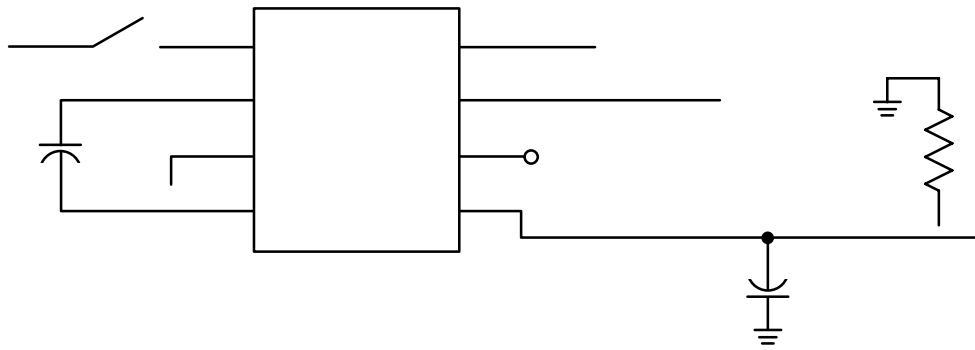

Figure 3. Test Circuit Voltage Inverter
**Table 3. ELECTRICAL CHARACTERISTICS** (V+ = 5 V, C1 = C2 = 100 μF, Boost/FC = Open, COSC = 0 pF, and Test Circuit is Figure 3 unless otherwise noted. Temperature is TA = TAMIN to TAMAX unless otherwise noted.)
- In Figure 3, test circuit electrolytic capacitors C1 and C2 are 100 μF and have 0.2 Ω maximum ESR. Higher ESR levels may reduce efficiency and output voltage.